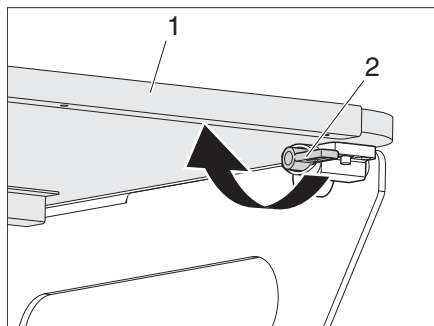

Fig. 24 Latch of the bed extension
- Turn the latch (Fig. 24,2) on the left and right at the bed extension (Fig. 24,1) by 180°.